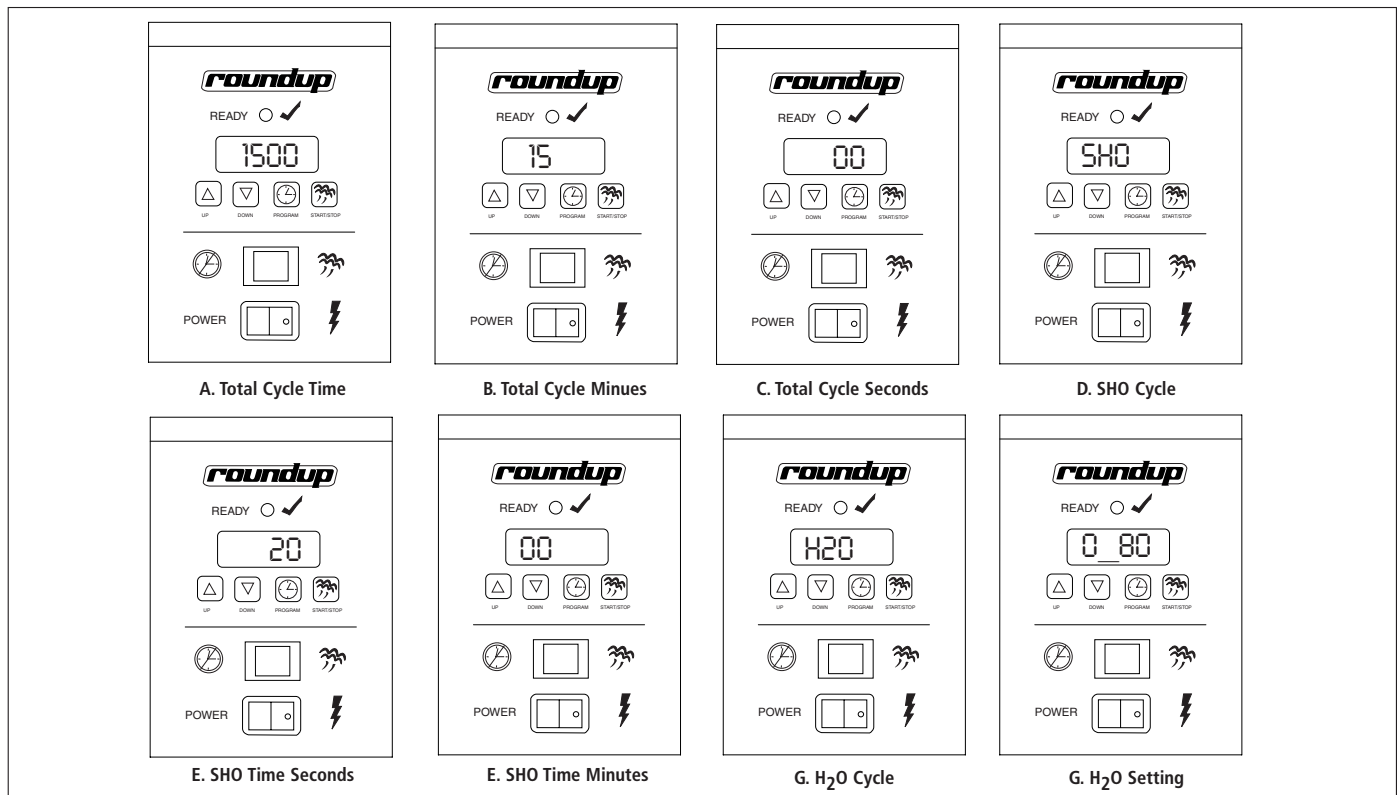

Figure 4. Control Programming Sequence
To program the control, refer to Figure 4 and use the following procedure in sequence:
1. Turn the power on. The display shows the factory programmed Total Cycle Time in minutes and seconds (Item A, Figure 4).
3. To change the Total Cycle Time in minutes, use the **UP** or **DOWN ARROW** buttons to change the time (Item B, Figure 4).
4. Press and release the **PROGRAM** button again and use the **UP** or **DOWN ARROW** buttons to change the Total Cycle Time in seconds (Item C, Figure 4).
5. To change the SHO factory settings, make sure the control is in Program mode, then press and hold the two **ARROW** buttons simultaneously for 1-2 seconds and then release. SHO will be displayed (Item D, Figure 4).
6. Press and release the **PROGRAM** button and use the **UP** or **DOWN ARROW** buttons to change the SHO setting in seconds (Item E, Figure 4).
7. Press and release the **PROGRAM** button again and use the **UP** or **DOWN ARROW** buttons to change the SHO setting in minutes (Item F, Figure 4).
8. Press and release the **PROGRAM** button again and "H2O" is displayed (Item G, Figure 4).
9. To change the H2O setting, press and release the **PROGRAM** button again to display the setting (Item H, Figure 4). Use the **UP** or **DOWN ARROW** buttons to increase or decrease the time.